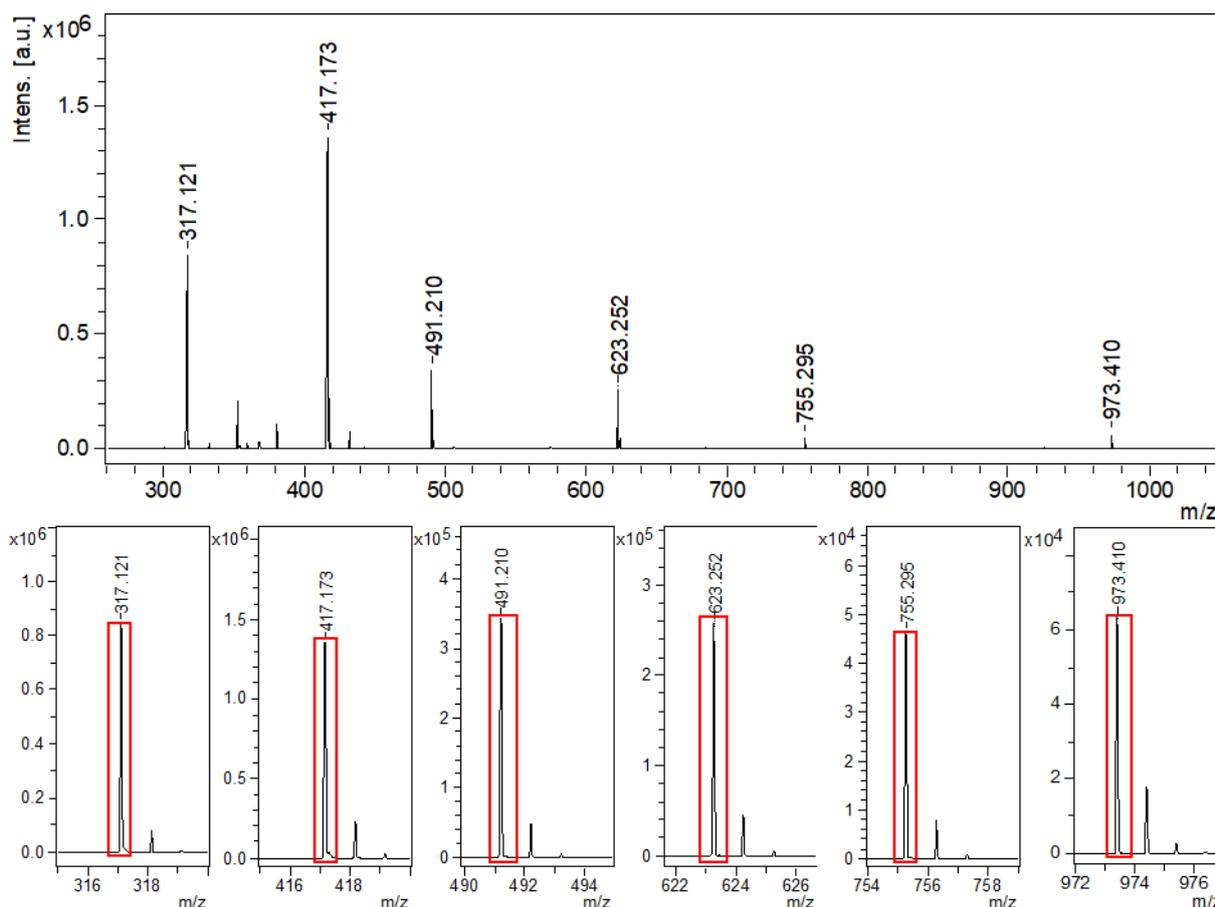

Figure 2. MALDI spectrum of PFS-1001 obtained with graphite as matrix. Monoisotopic peaks highlighted with red boxes.
- 8) Measure the MALDI spectrum of a calibration spot, ensure good signal to noise spectra. Compare your collected spectrum with Figure 2. Intensities and intensity ratios of the 6 components will vary, depending on the matrix used.
- 9) Within the calibration tab of your software, choose the *SpheriCal® Aqua Peptide Low* mass list and click “automatic assignment”. The software should automatically assign the peaks. Click through the assignments and ensure that the software has chosen the correct monoisotopic peaks (cf. Figure 2, bottom). With the available 6 calibration points, you can use advanced algorithms such as *cubic enhanced*. Click *calibrate* to perform your calibration.